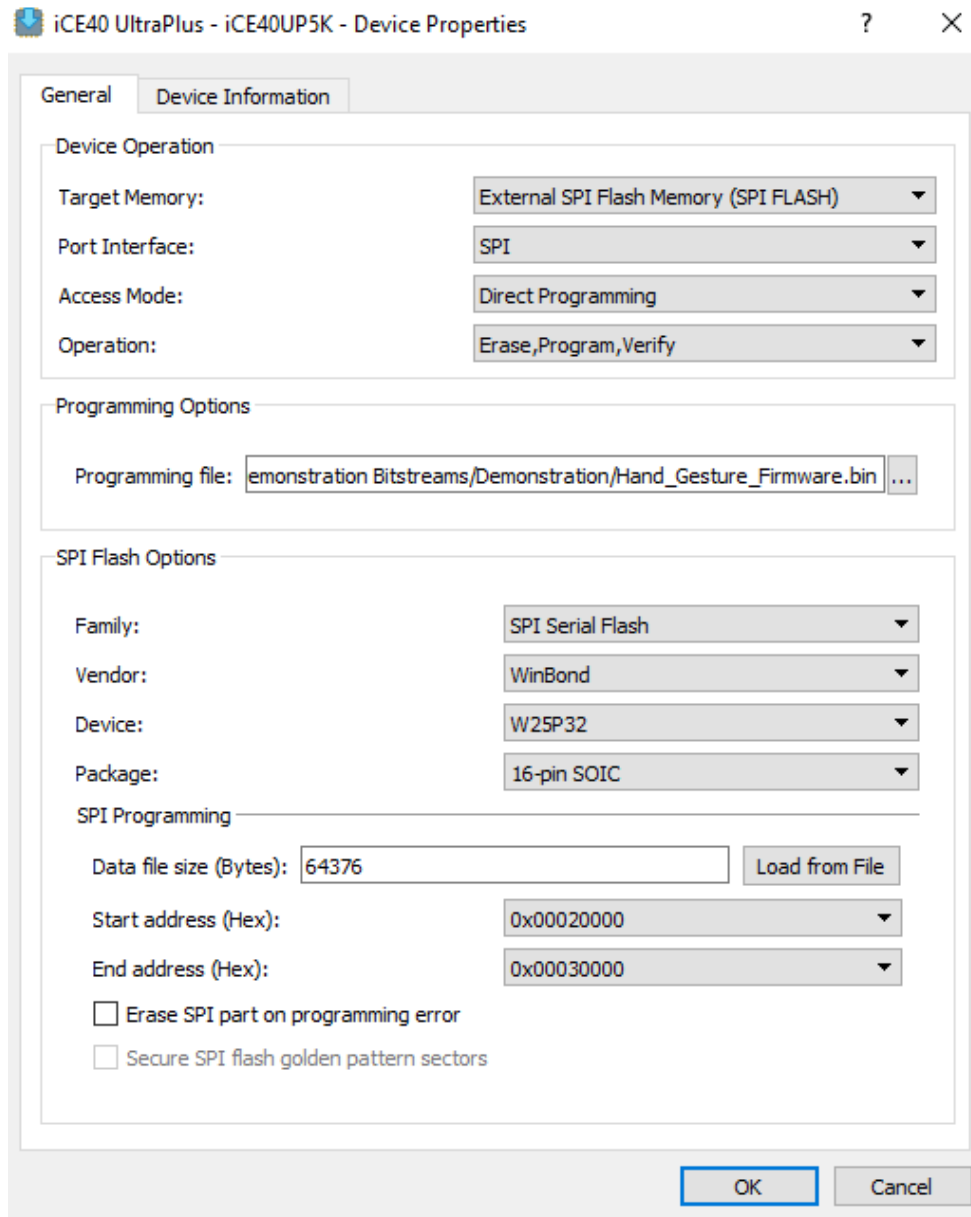

Figure 4.3. Binary Firmware File Settings
- 9. To program the binary firmware file, select the options below as shown in Figure 4.3.